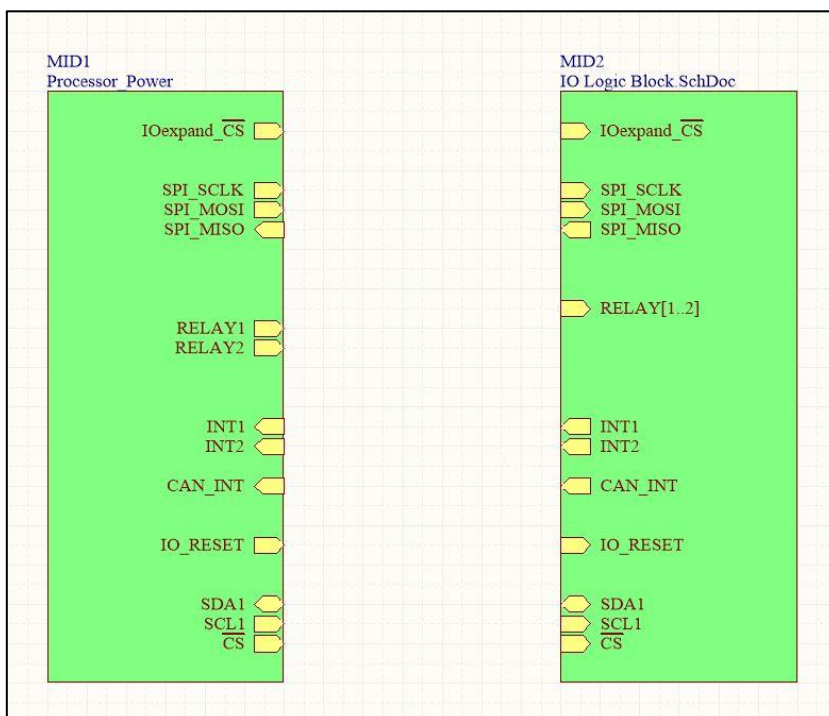

Figure 5. Sheet Symbol Alignment
22. Align the Sheet Entries from `MID2` to the sheet entries in Sheet Symbol `MID1`, Figure 5.
- Ensure to offset the `Relay[1..2]` sheet entry on `MID2` as shown in Figure 5 as we will create a Bus connection for this shortly.